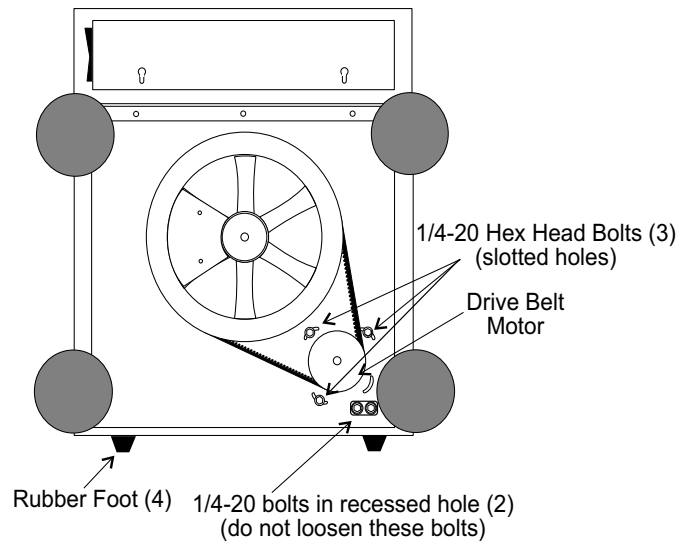

Figure 4-1. Underside of shaker cabinet with bottom cover removed
4. Loosen but do not remove, the two 7/16” screws located in the slotted holes adjacent to the shaker drive motor. Refer to Figure 4-1.